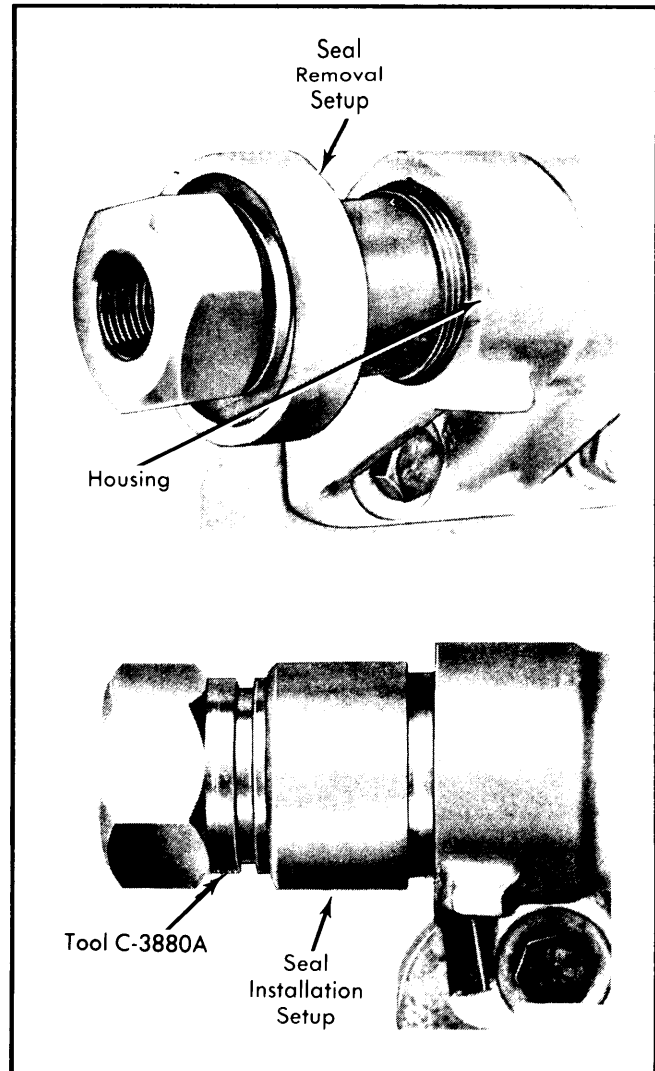

Fig. 4 Sector Shaft Oil Seal Removal & Installation (Chrysler Corp.)
2) Slide threaded adapter over end of sector shaft and install nut portion of tool (see Fig. 4). Apply pressure on adaptor with nut while screwing adaptor into seal until it grips seal firmly. Place two half rings and retainer over both portions of tool. Turn nut counterclockwise to withdraw seal from housing.